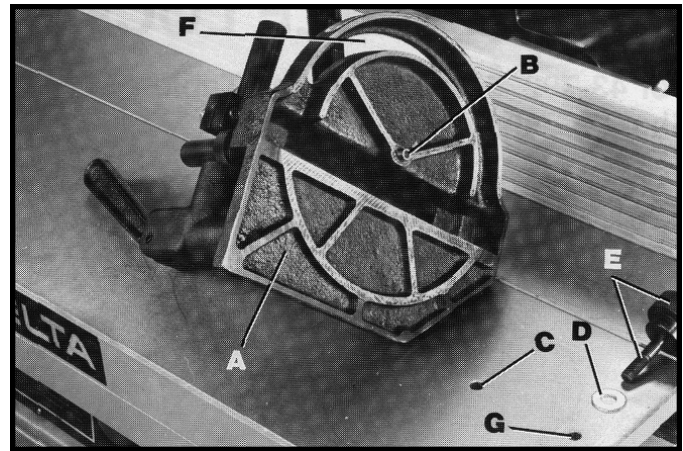

Fig. 48
1. Position the miter gage body (A) Fig. 48, on the sliding table with the protrusion (B) on bottom of miter gage body engaged into hole (C) of table. Place washer (D) on shaft of lock knob (E) and insert shaft of lock knob (E) down through opening (F) of miter gage and thread shaft into hole (G) of sliding table.